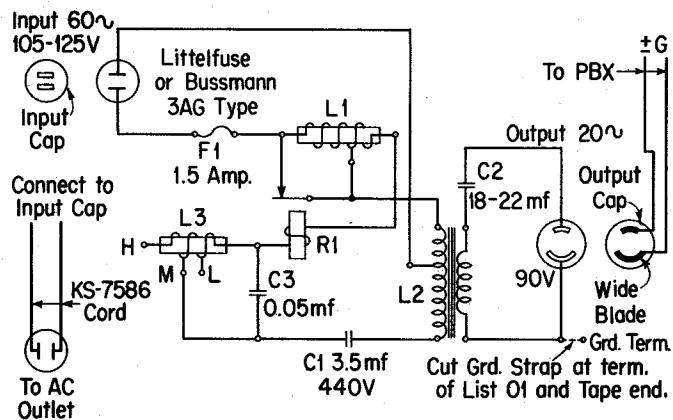

Fig. 2—Schematic Circuit Drawing—KS-5585, List 01 and List 06 Static Ringing Generators
3.07 After installing the necessary wiring, make the required connections as shown in Fig. 2.
Note: The List 01 generator has a strap between the secondary winding of the transformer and the Grd terminal on the case. Remove the strap from the Grd terminal and tape the end. See Fig. 2.